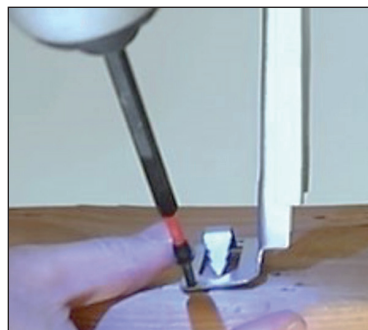

Fig. 7
- Permanently secure hanger bars to joist with hardware provided by others. [Fig. 7]